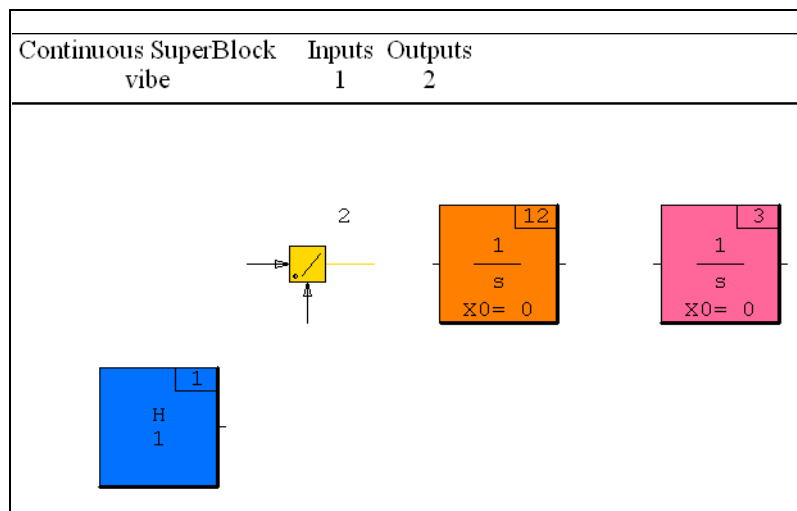
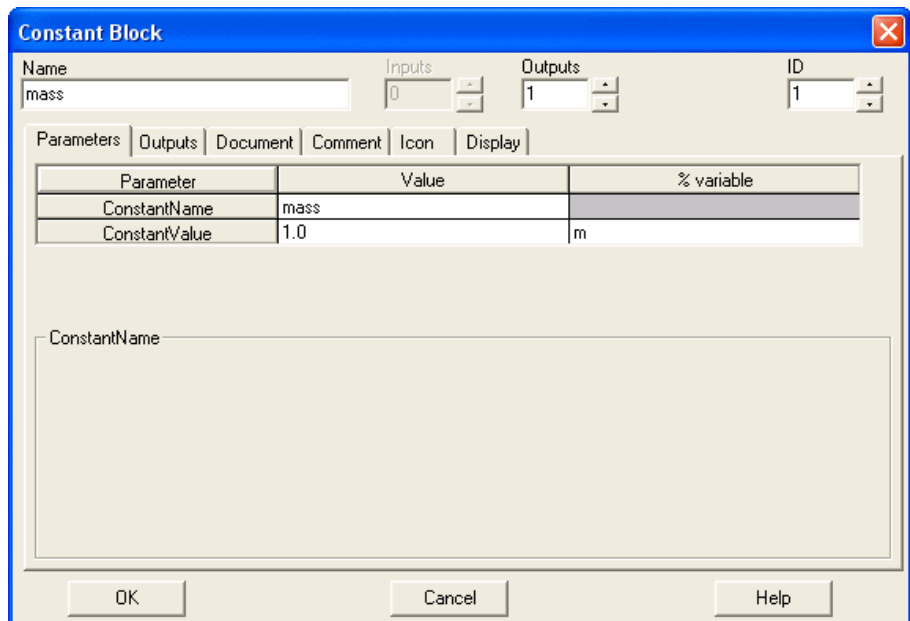

Figure 4-14. Adding Blocks to *vibe*
Figure 4-15. Constant Block Properties Dialog Box: Parameters Tab
Blocks are positioned in a block diagram by dragging with MB1. Position the blocks as in Figure 4-14.
Note The block ID is displayed in the upper right corner of each block. Your ID numbers might not match those in Figure 4-14. To add color to a block, left-click block (ID=12) and change the Display Toolbar Combo Box **NoColor** to **Orange**. Change the color of Block (ID=3) to **Pink**, Block (ID=2) to **Yellow** and Block (ID=1) to **Blue**.
1. In the Editor, move the mouse cursor over the Constant block (the left-most block as shown in Figure 4-14) and press the <Enter> key. The **Constant Block** properties dialog box is displayed. The **Parameters** tab is selected and all properties are set to their default values. Figure 4-15 shows the **Constant Block Properties** dialog box as it appears during step 3.
3. Verify that the **Parameters** tab of the **Block Properties** dialog box is selected, as shown in Figure 4-15.
- In the Editor, move the cursor over the `ElementDivision` block (second block from the left as shown in Figure 4-14) and press the <Enter> key.
1. In the Editor, move the cursor over the first Integrator block, second block from the right as shown in Figure 4-14, and press the <Enter> key.